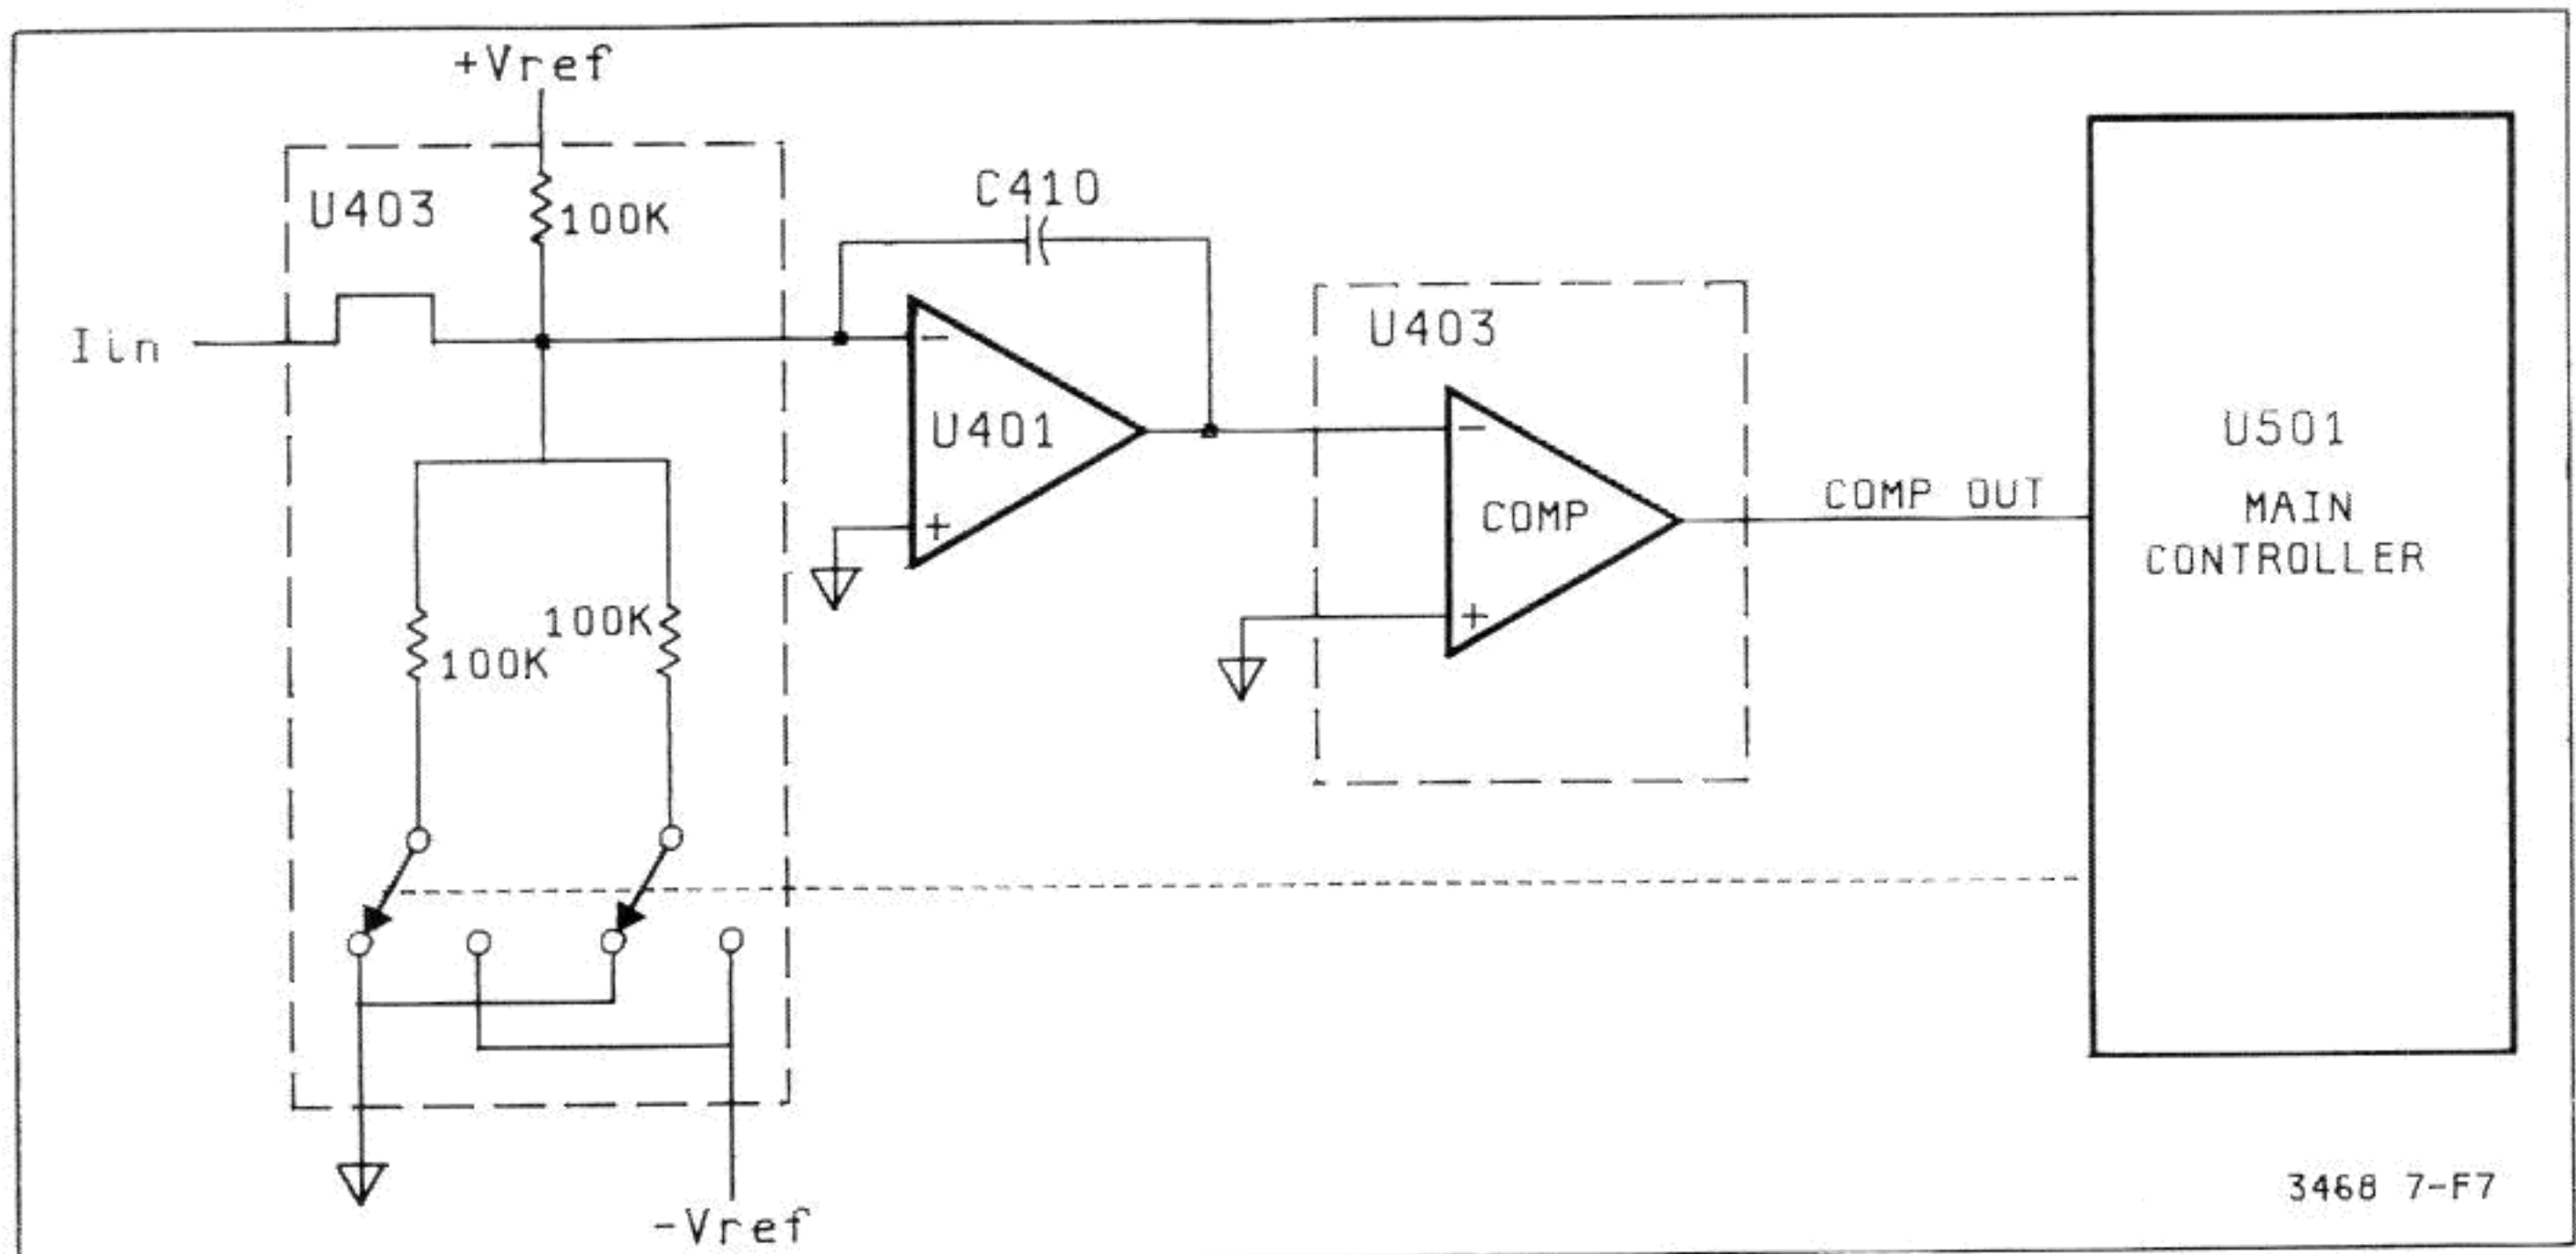

Figure 7-F-7. Simplified A/D Converter
a. When runup starts, the input voltage (A/D Converter input voltage, not instrument input voltage) is applied to integrator U401. The resultant input current (I_{in}) then charges integrator capacitor C410 and a certain slope (output of the integrator) is then developed. This happens at time period T1 (see Figure 7-F-8). (The input voltage is always applied during runup.)